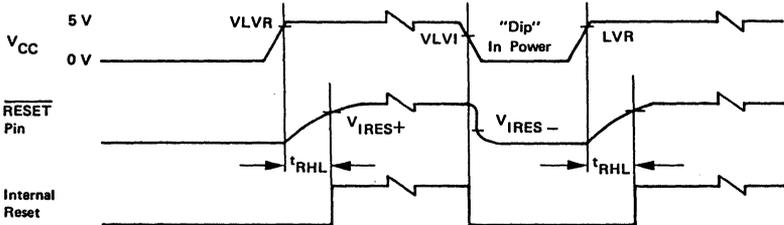
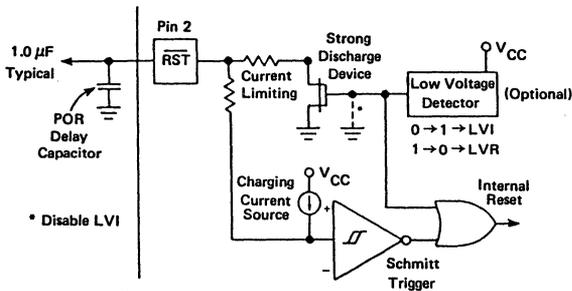

FIGURE 13 – POWER AND RESET TIMING
FIGURE 14 –  $\overline{\text{RESET}}$  CONFIGURATION
**Power-On Reset (POR)** – An internal reset is generated upon powerup that allows the internal clock generator to stabilize. A delay of  $t_{RH}$  milliseconds is required before allowing the  $\overline{\text{RESET}}$  input to go high. Refer to the power and reset timing diagram of Figure 13. Connecting a capacitor to the  $\overline{\text{RESET}}$  input (as illustrated in Figure 14) typically provides sufficient delay. During powerup, the Schmitt trigger switches on (removes reset) when  $\overline{\text{RESET}}$  rises to  $V_{IRES+}$ .